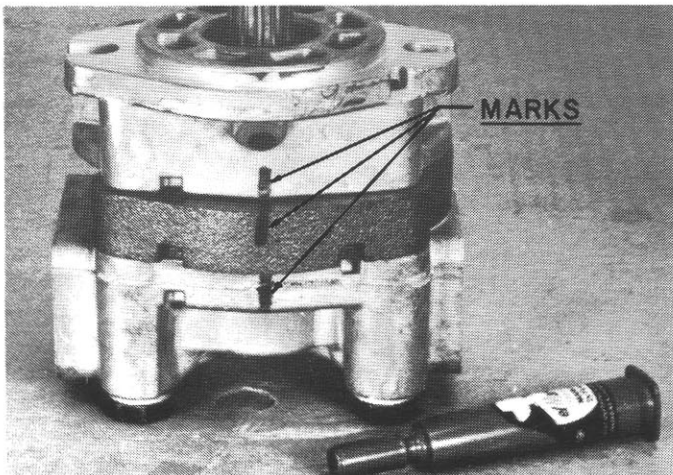

Fig. 2
2. Mark the pump plates nearest to drive shaft extension side. These marks can be used for matching in reassembling pump. (Fig. 2)